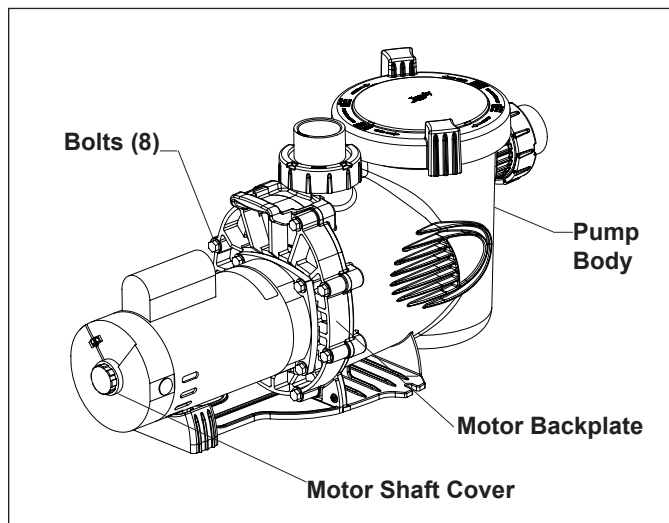

Figure 2. Remove the Pump Housing
3. Using a 9/16" wrench, loosen the bolts connecting the pump body to the motor backplate (see Figure 2).
6. Remove the motor shaft cover on the back of the motor by twisting the hex-head screw with a 90° crescent wrench (see Figure 2). The motor shaft will be exposed.